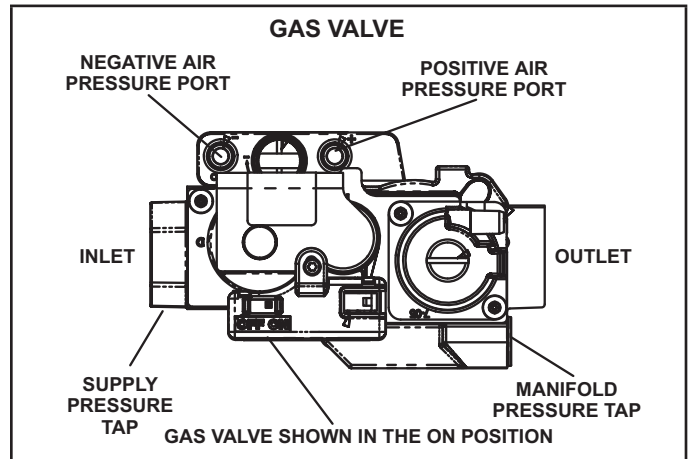

FIGURE 5
- 6 - Move the gas valve switch to the OFF position. See figure 5.